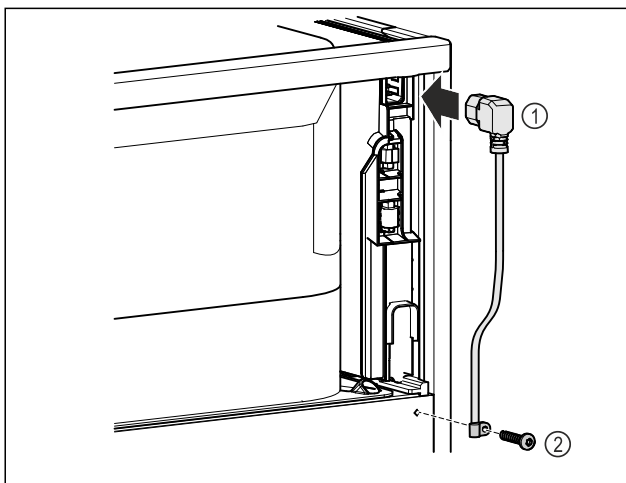

Fig. 75
- ▶ IEC socket of the power cable Fig. 75 (1) on the rear side of the appliance.
- ▶ Install mains tension relief. Fig. 75 (2)